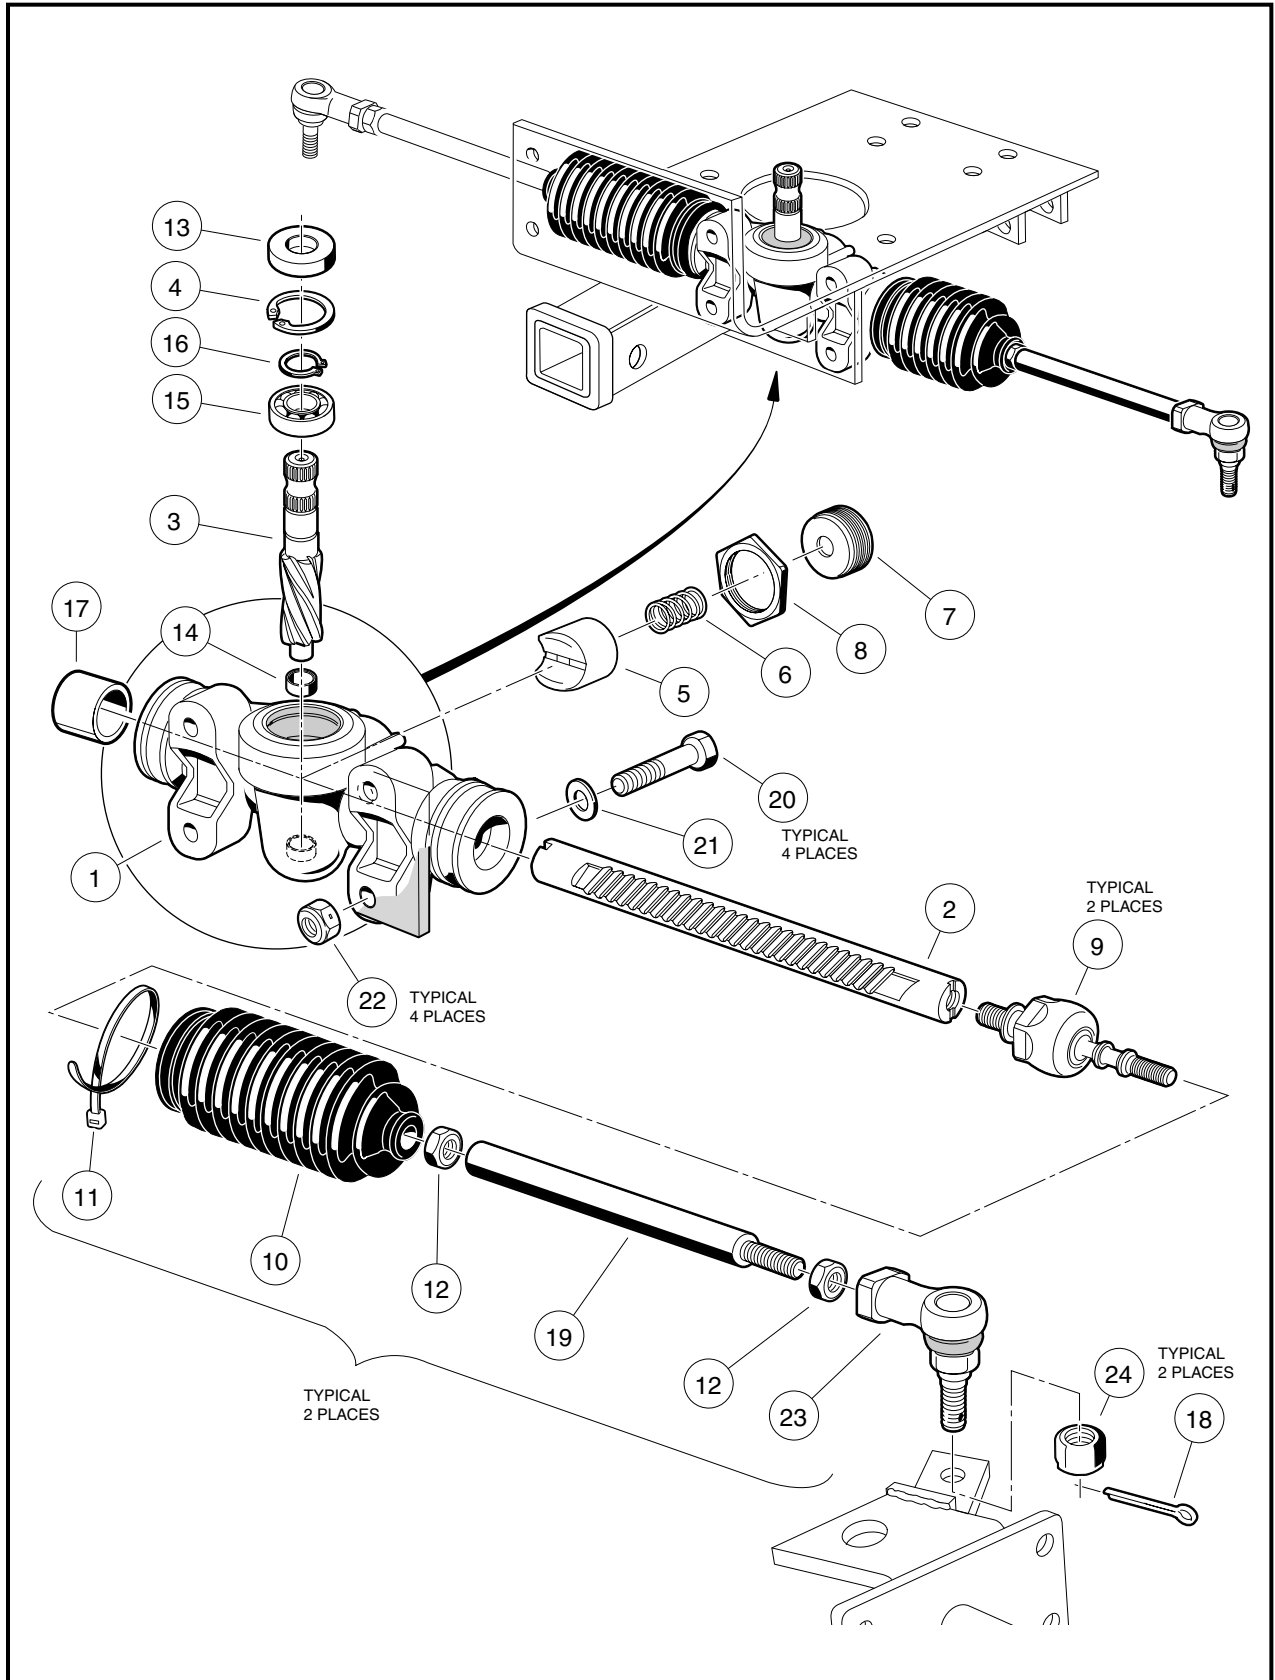
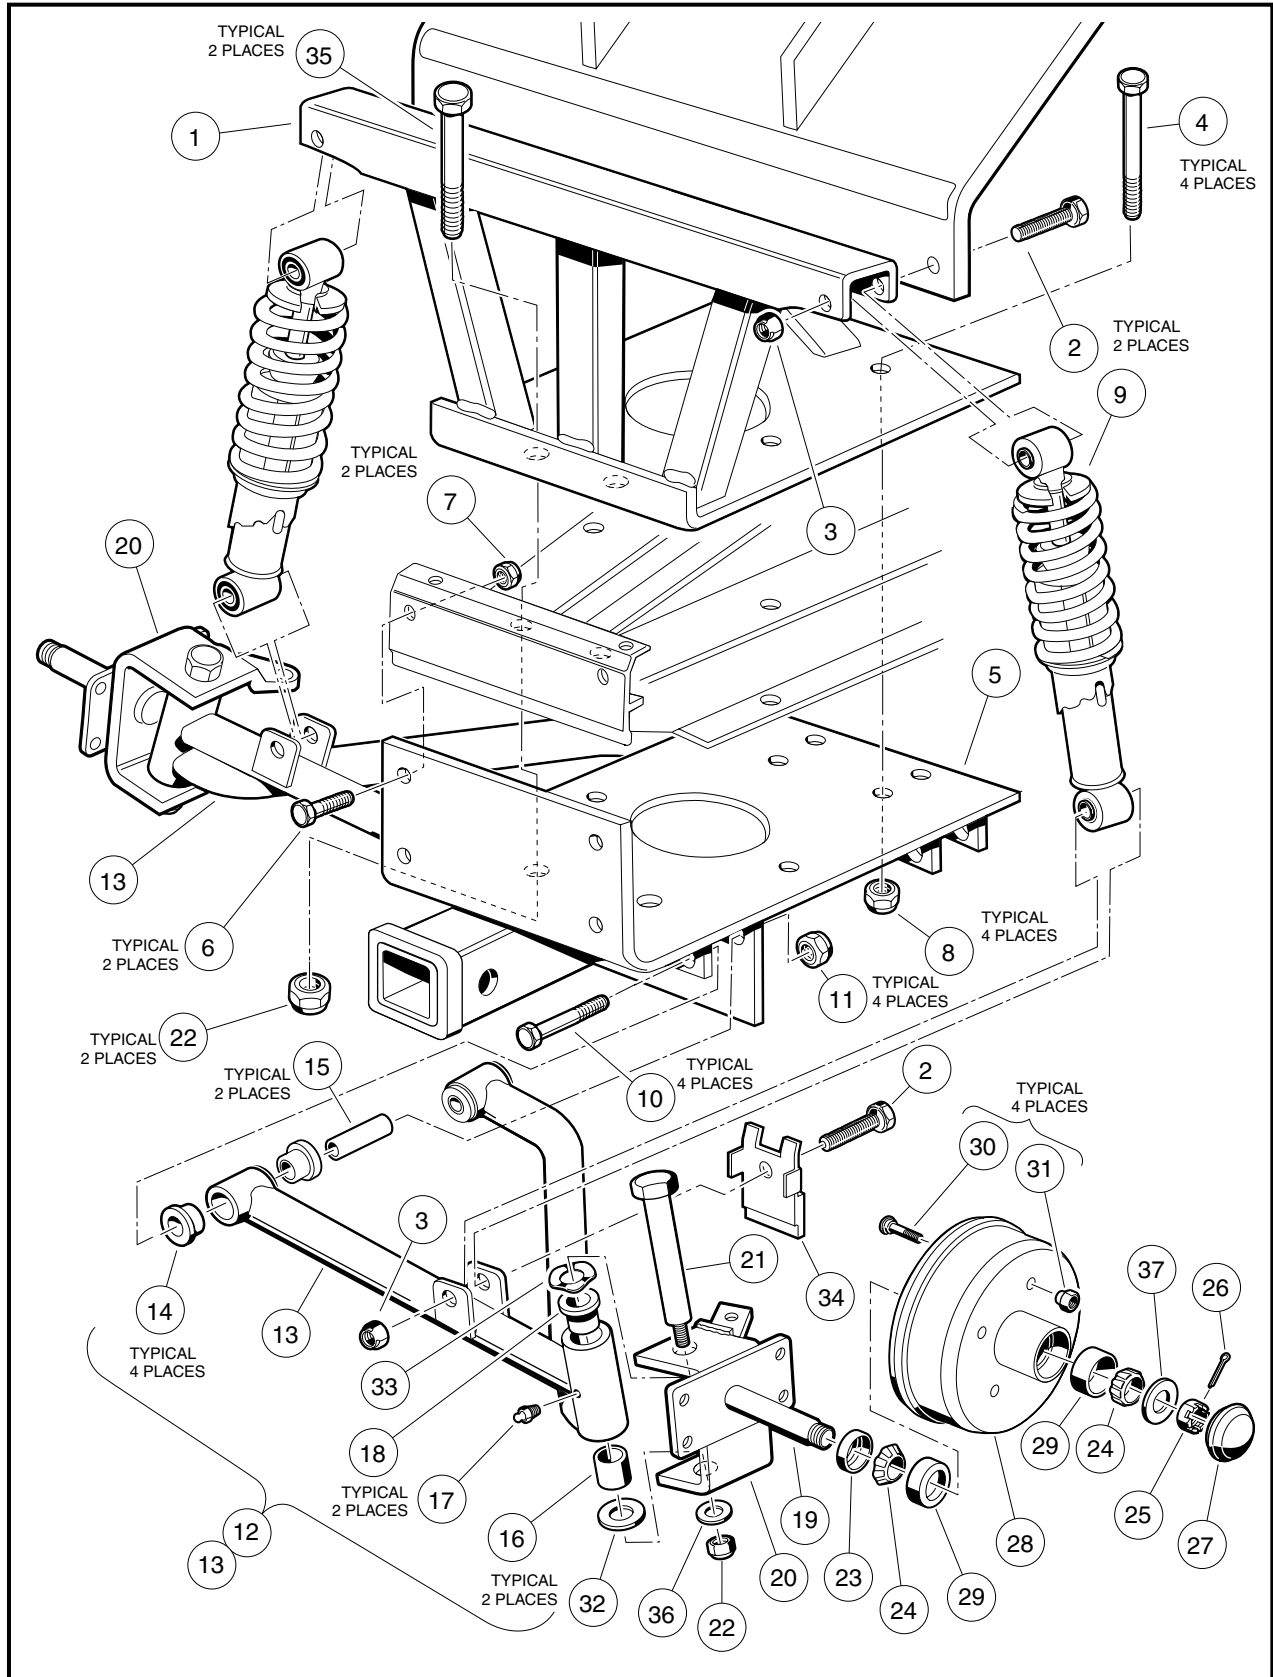

Figure 7-20 Steering Gear
Figure 7-29 Front Suspension
3. Remove the cotter pins (18) and ball joint retaining nuts (24) (**Figure 7-20, Page 7-13**).
4. Remove the ball joints (23) from the spindle assemblies (**Figure 7-20, Page 7-13**).
5. Remove the four bolts (20), washers (21) and nuts (22) from the steering rack and pinion assembly mounting bracket (**Figure 7-20, Page 7-13**).
4. Remove the two hex nuts (12) and slide off both of the dust seal bellows (10) (**Figure 7-20, Page 7-13**).
5. Remove the rack screw nut (8), rack guide screw (7), rack guide pressure spring (6) and the rack guide (5) (**Figure 7-20, Page 7-13**).
6. Remove the universal joint assembly from the pinion (3) by fully removing the bolt and then sliding off the universal joint (**Figure 7-20, Page 7-13**).
10. Remove the U-joint from the pinion (3) (**Figure 7-20, Page 7-13**).
11. If the ball bearing (15) (**Figure 7-20, Page 7-13**) has been damaged, remove the c-type stop ring (16) (**Figure 7-15, Page 7-10**) and press the bearing off (**Figure 7-13, Page 7-10**).
12. Inspect the bushing (17) and needle bearing (14) for excessive wear. If wear is excessive, replace the steering box assembly (CCI P/N 102010101) (**Figure 7-20, Page 7-13**).
13. Inspect the ball joints (9) for wear (**Figure 7-20, Page 7-13**). If one or both of the ball joints (9) are excessively worn, remove and replace the ball joint from the rack.
- 13.3. Using a wrench, remove the ball joint (9) from the rack (2) (**Figure 7-20, Page 7-13**).
14. Remove the rack (2) from housing (1) (**Figure 7-20, Page 7-13**).
1. Apply a liberal amount of EP grease to the teeth of the rack (2), then slide the rack through the bushing (17) and housing (1) (**Figure 7-20, Page 7-13**).
2. If the pinion bearing (15) was removed, grease a new bearing before installation. Press new bearing onto pinion shaft, exerting all pressure on the inner race. Then install the c-type stop ring (16) (**Figure 7-20, Page 7-13**).
3. Install pinion (3) and bearing (15) assembly into the housing (1) (**Figure 7-20, Page 7-13**). Make sure the rack gear teeth will mesh with the gear teeth on the pinion. The rack may need to be rotated slightly while lightly tapping on the pinion-bearing assembly with a rubber mallet. **See following CAUTION.**
4. Install the snap ring (4) **(Figure 7-20, Page 7-13)**.
6. Apply a small amount of grease to the rack guide (5) where it comes into contact with the rack (2) **(Figure 7-20, Page 7-13)**.
7. Place a few drops of Loctite 222 to the threads of the screw (7) **(Figure 7-20, Page 7-13)**.
9. Install the rack guide (5), pressure spring (6) and screw (7) **(Figure 7-20, Page 7-13)**. The screw should be threaded-in until it bottoms out and then backed out 1/4 turn **(Figure 7-22, Page 7-14)**.
13. Install the ball joints (9) to each end of the rack (2). Tighten to 20 ft-lb (27 N·m) **(Figure 7-20, Page 7-13)**.
15. Install the two dust seal bellows (10) **(Figure 7-20, Page 7-13)**.
16. Install new bellows clamps (wire ties) (11) **(Figure 7-20, Page 7-13)**.
18. Install the two nuts (12) and drag links (19). Tighten drag link (19) against nut (12) to 20 ft-lb (27 N·m) **(Figure 7-10, Page 7-9 and Figure 7-20, Page 7-13)**.
20. Install the two nuts (12) and ball joints (23) to the drag links (19). Tighten to 20 ft-lb (27 N·m) **(Figure 7-20, Page 7-13)**.
3. Position the steering rack and pinion assembly on the vehicle frame, sliding the steering universal joint up and through the hole in the mounting plate. Install the bolts (20), washers (21) and nuts (22). Using a crisscross pattern, tighten the four nuts to 20 ft-lb (27.12 N·m) **(Figure 7-20, Page 7-13)**.
- 6.1. Remove the two cotter pins (18) (**Figure 7-20, Page 7-13**).
- 6.2. Remove the lock nuts (24) (**Figure 7-20, Page 7-13**).
- 6.4. Tighten the lock nuts (24) to 18 ft-lb (24.4 N·m) (**Figure 7-20, Page 7-13**).
2. Remove cotter pin (18) and nut (24), then remove the ball joint from the spindle assembly (**Figure 7-20, Page 7-13**).
5. Remove the nut (22) and washer (36) from kingpin (21) and remove the kingpin (**Figure 7-29, Page 7-18**).